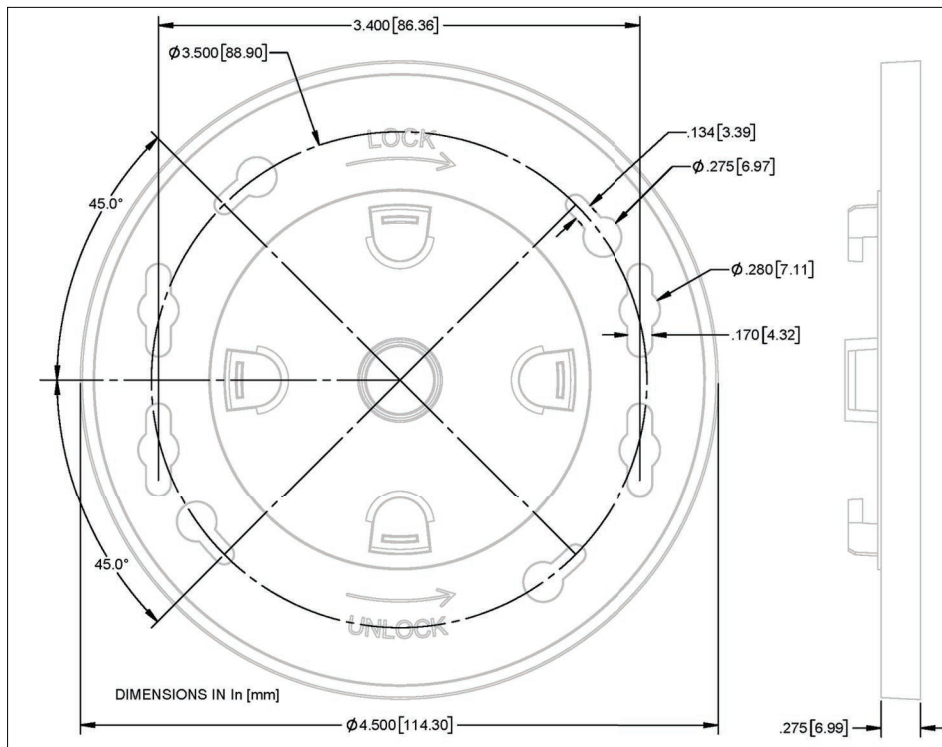

Figure 3. Gateway Mounting Bracket – Dimensions Inches [mm]
2. Get the mounting bracket (see Figure 3) and antenna from the Gateway installation kit. Locate a position on the wall to attach the Gateway mounting bracket.